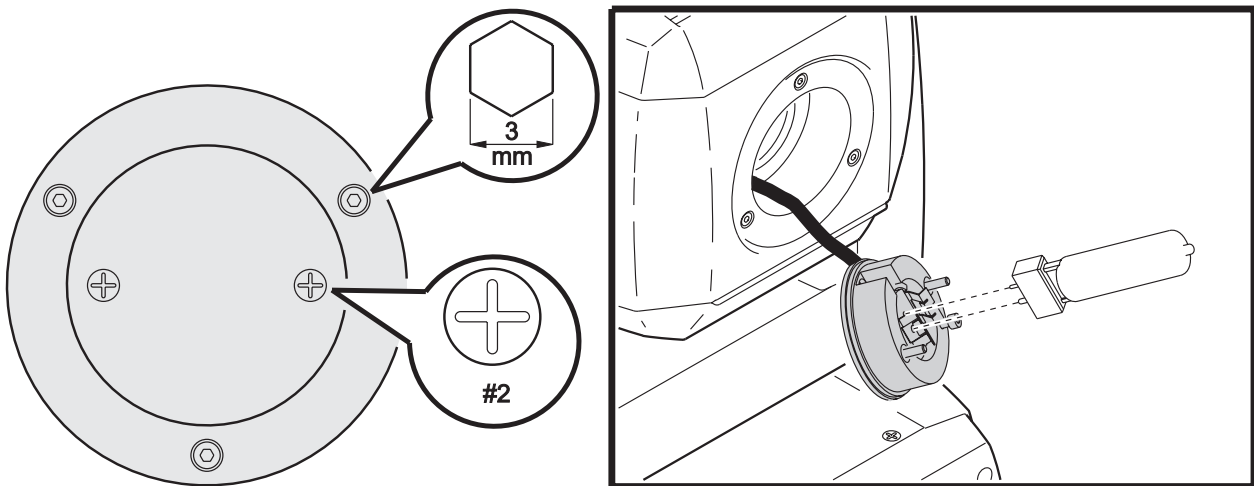

Figure 12: Lamp installation
9. Strike the lamp and adjust for optimum performance by turning the three 3mm Allen screws shown in Figure 12 one at a time until the brightest part of the beam is centered.